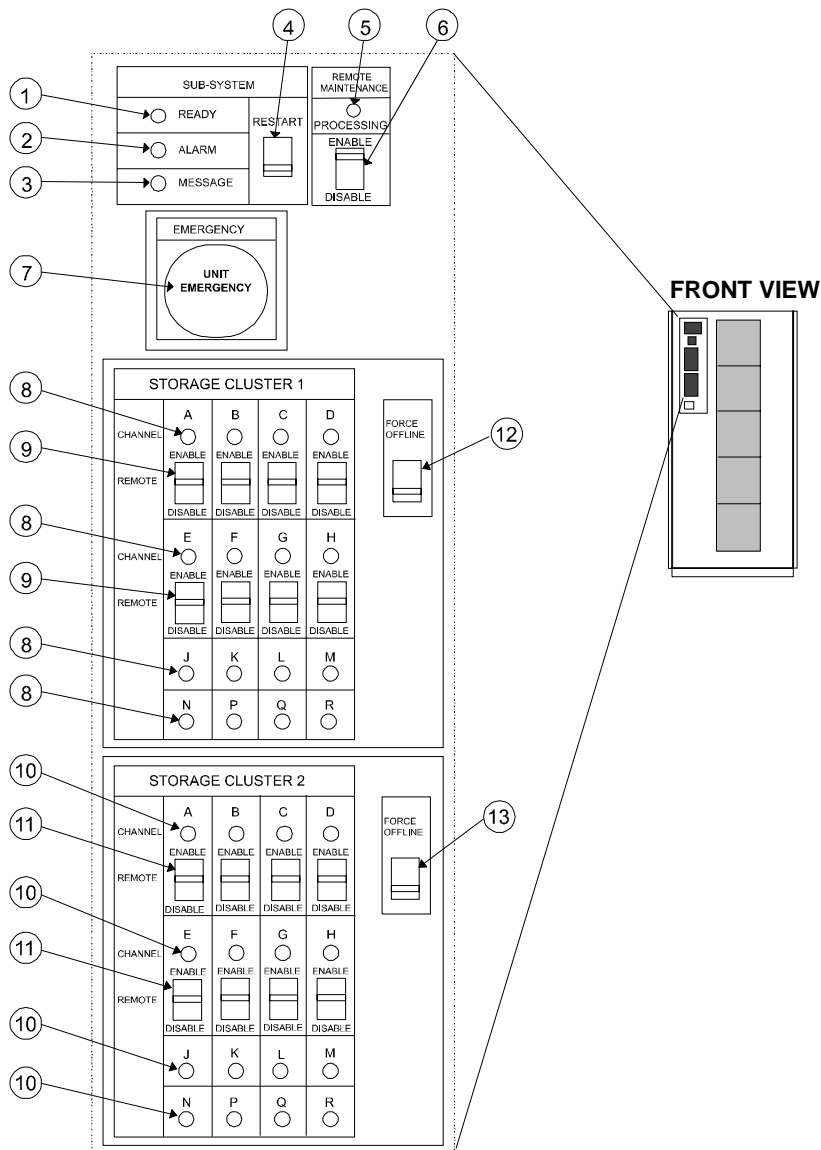

Figure 3 Operator Control Panel
The control panel is located on the front of the control cabinet. Figure 3 illustrates the control panel. The item numbers in the figure correspond to the item numbers in Table 1.
2. Pull the emergency power-off switch (item 7 in Figure 3 on p. 24) up and then out towards you as illustrated on the switch.
- b. The CHANNEL LED (8, Figure 3 on p. 24) will light green for every adapter installed.
- c. The MESSAGE LED (3, Figure 3 on p. 24) will turn amber signifying a SIM was generated (because the disk array went down unexpectedly).
- d. Finally, the Ready LED (1, Figure 3 on p. 24) will light green signifying the system is ready.